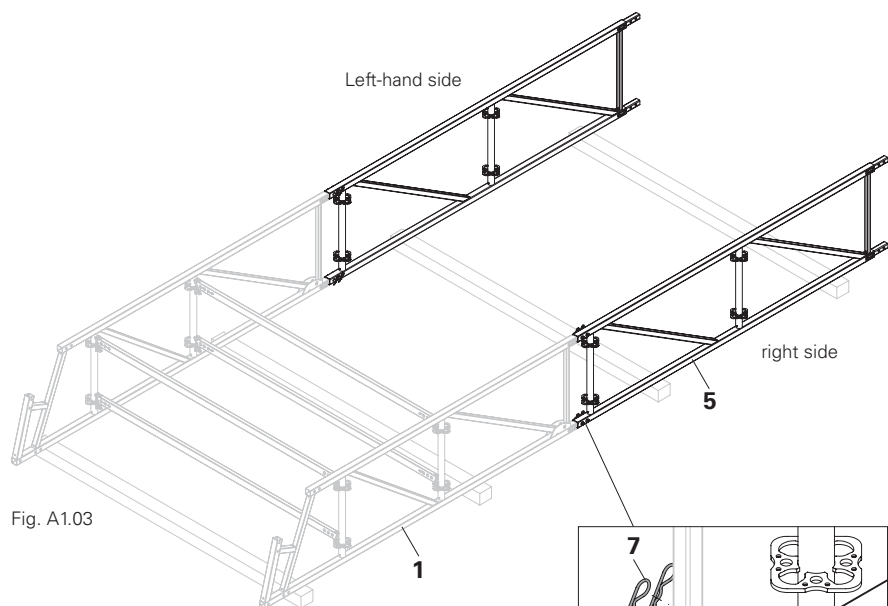

Fig. A1.03
1. Push the tubes of the standard element (**5**) onto the pins of the eave elements. (Fig. A1.03)